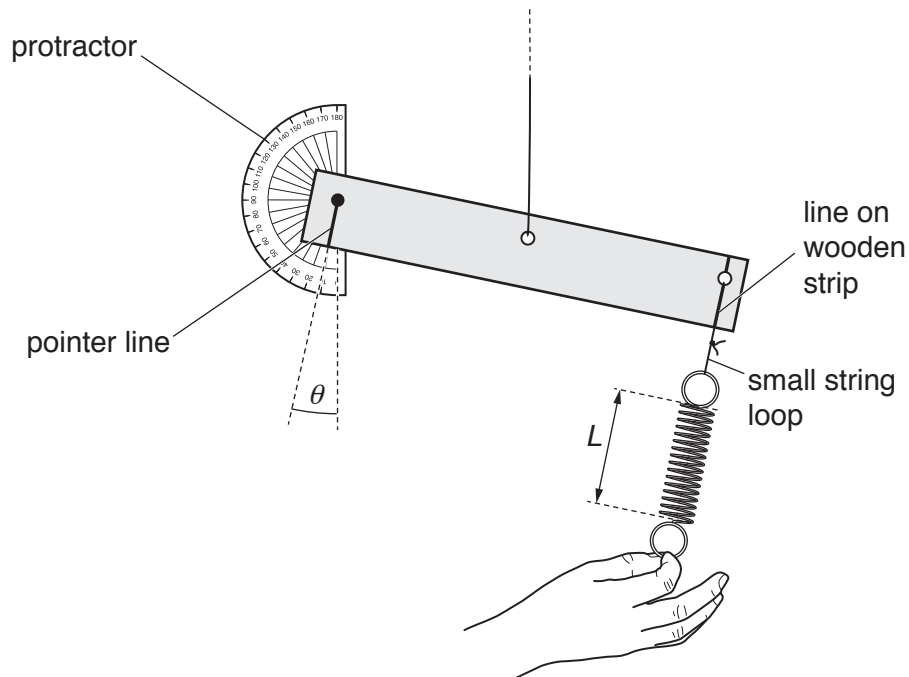

Fig. 1.3
- (b) • Pull the spring down a short distance, keeping the small string loop aligned with the line on the wooden strip, as shown in Fig. 1.3.
- Measure and record the length L of the coiled section of the spring, as shown in Fig. 1.3.
- Read and record the angle θ of the pointer line from the vertical, as shown in Fig. 1.3.